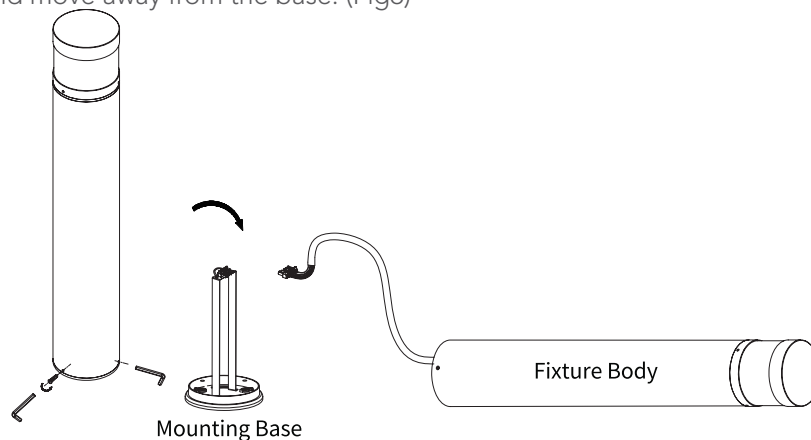

Fig5
4. Disassemble the fixture by loosening the set screws x3 with hex wrench. (Fig5)